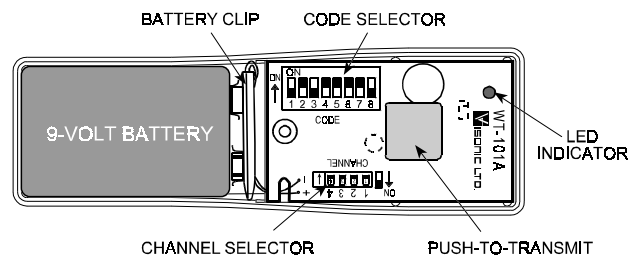

Figure 2. WT-101A, Cover Removed
**Model WT-101A** (see Fig. 2): This model can be programmed to activate any one of the 4 output relays in the receiver - from "channel 1" to "channel 4".